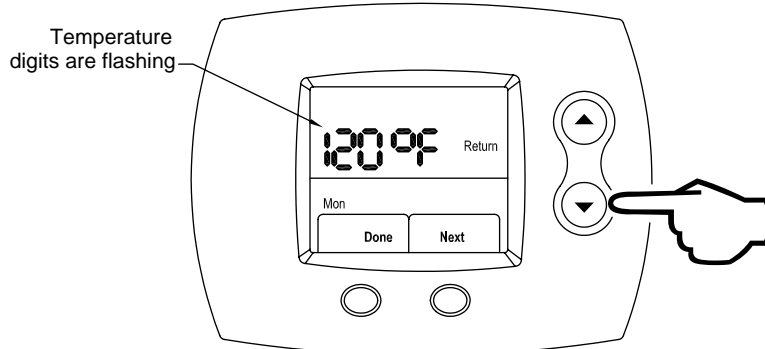

Figure 66
Step 19: Using the **UP** (increase water temperature) or **DOWN** (decrease water temperature) buttons, select the Return period water temperature. This is shown in Figure 66.